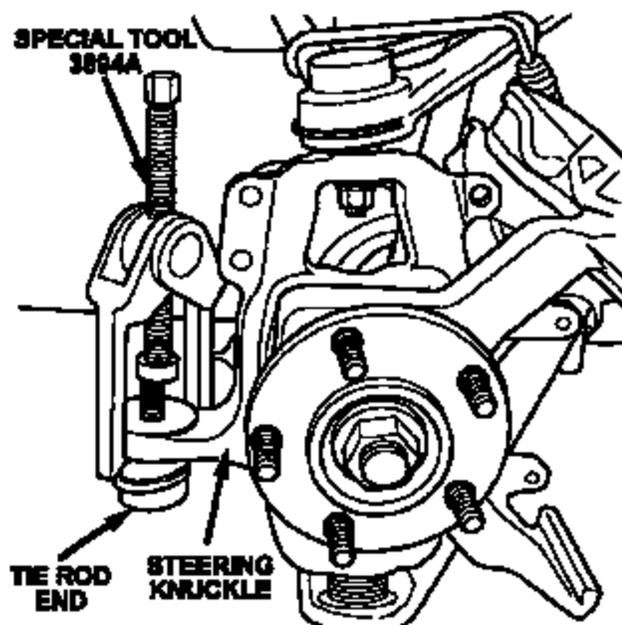

Figure 1
9. Install special tool 3894A as shown in Figure 1. Tighten the tool to disconnect the tie rod from the steering knuckle.